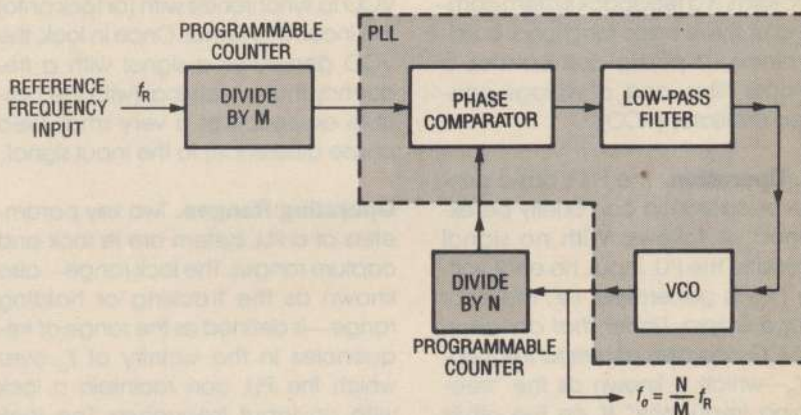

Fig. 3. The PLL can be used to generate new frequencies from a stable reference source by either frequency multiplication and division, or transition.
Frequency Synthesis. The PLL can be used to generate new frequencies from a stable reference source by either frequency multiplication and division, or transition. Figure 3 shows a typical frequency multiplication and division circuit using a PLL and two programmable counters. In that application, one of the counters is inserted between the VCO and the phase comparator, effectively dividing the VCO frequency by the counter's modulus (N). When the system is in lock, the VCO output is related to the reference frequency (f_R) by the counter moduli M and N as: